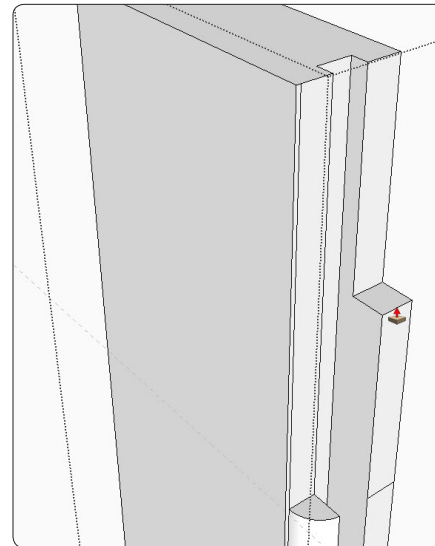

Figure 79. Remove waste from the inside face of the stile.
Step 7 To make the mortises in the stile, place a guide line 2 1/4 in. down from one end of the stile. Then use the Push/Pull Tool, as shown in Figure 79, to remove